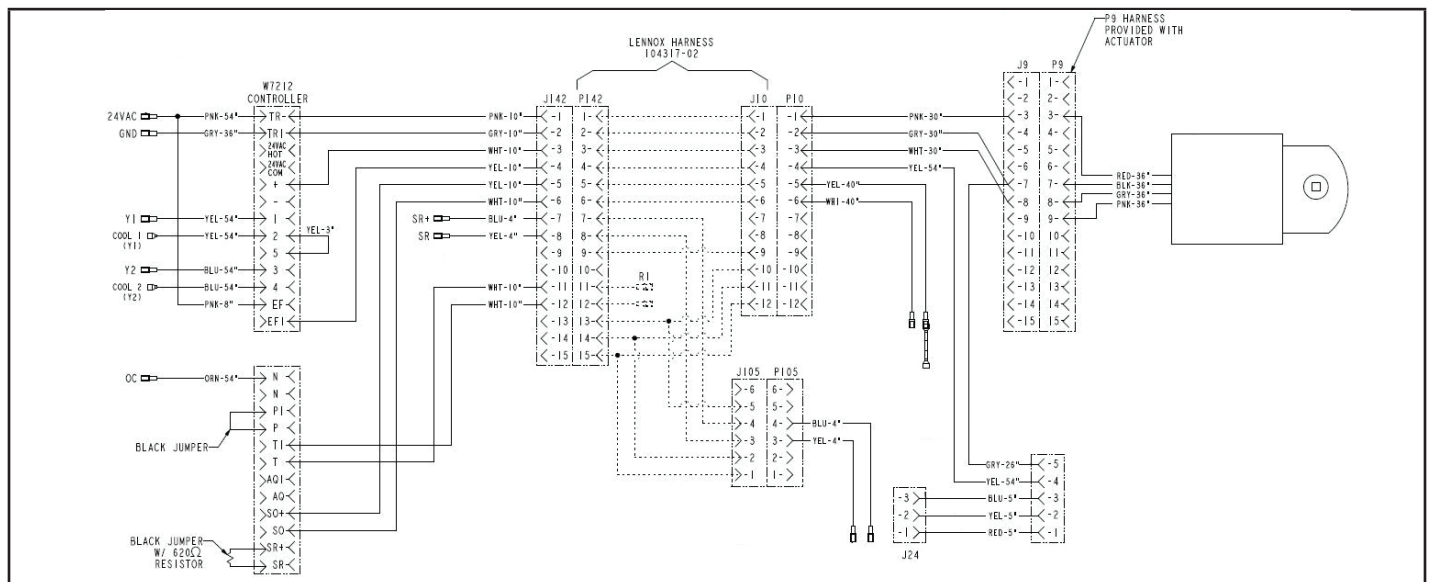

FIGURE 23
- 5 - Connect any optional sensors as shown in FIGURE 23.
- 6 - If optional power exhaust is used, wire according to instructions provided with power exhaust. See FIGURE 23.